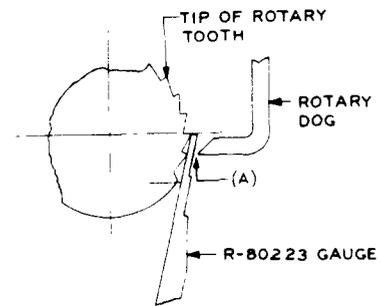

Fig. 27—Illustrating Requirement for Clearance Between Rotary Dog and Rotary Tooth
between the tip of the rotary dog and the tip of the rotary teeth (Fig. 27, location A) on each step of the fifth level of the following switches:
- (a) The 197-type switches, equipped with release links, should have a minimum of 0.030 inch and a maximum of 0.045 inch with the double dog engaged in the release link. Use the R-80223 gauge, as shown in Fig. 27.
- (b) The 197-type switches, not equipped with release links, should have a minimum of 0.030 inch and a maximum of 0.045 inch with the release magnet electrically operated. Use the R-80223 gauge, as shown in Fig. 27.
- (c) The 198-type switches should have a minimum of 0.030 inch with the release magnet electrically operated. Use the R-80223 gauge, as shown in Fig. 27.